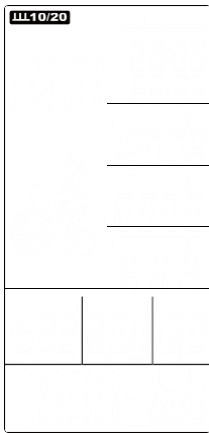

Figure 4
2. The windows of INTERVAL10/20, INTERVAL10/20, INTERVAL CUSTOM, READY, WORK, REST, TIME, DISTANCE, CALORIES, WATTS, SPEED, RPM will flash in every 1s (Figure 4~Figure 16).